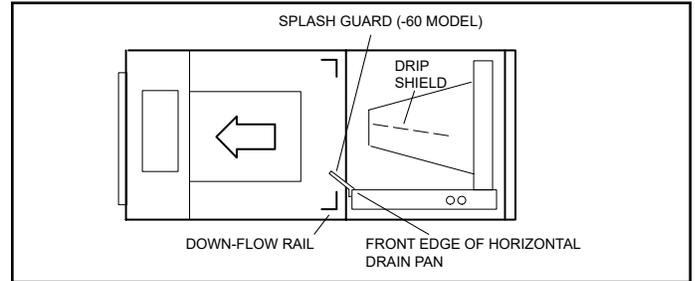

Figure 4. Left-Hand Discharge Configuration
10. Install the splash guard on the front edge of the horizontal drain pan as illustrated in Figure 4.